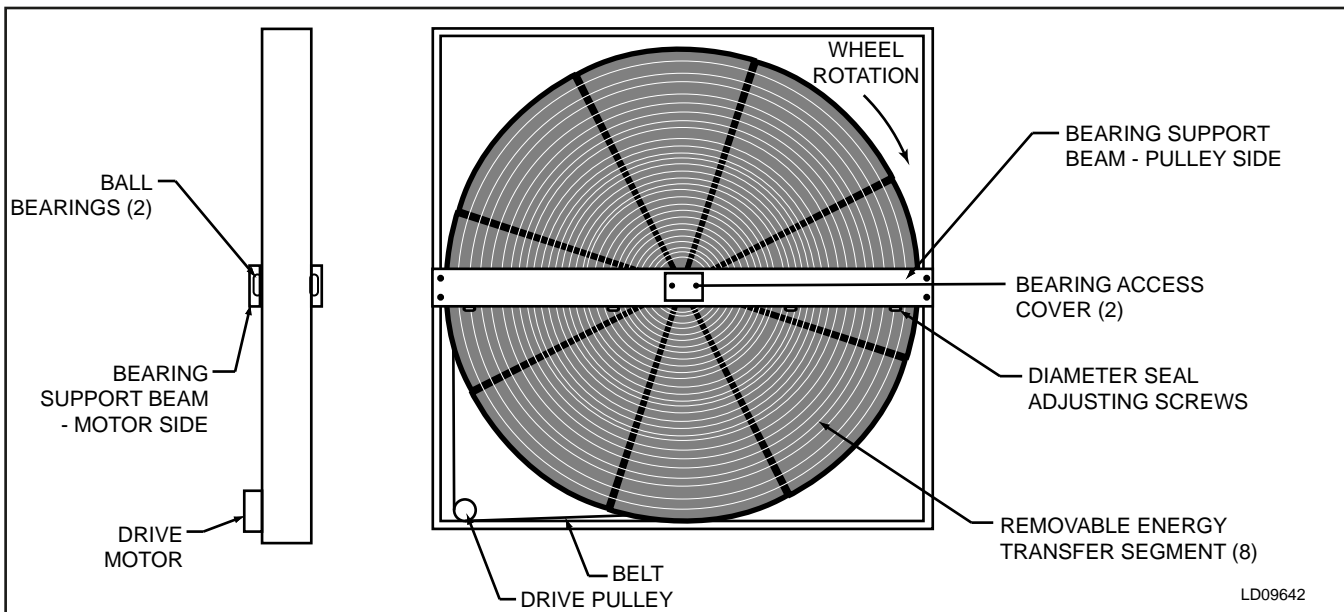

FIG. 3-11 – ENERGY RECOVERY WHEEL - PULLEY SIDE
1. With power off, by hand, turn wheel clockwise (as viewed from the pulley side), to verify wheel turns freely through 360° rotation (see Fig. 3-11).